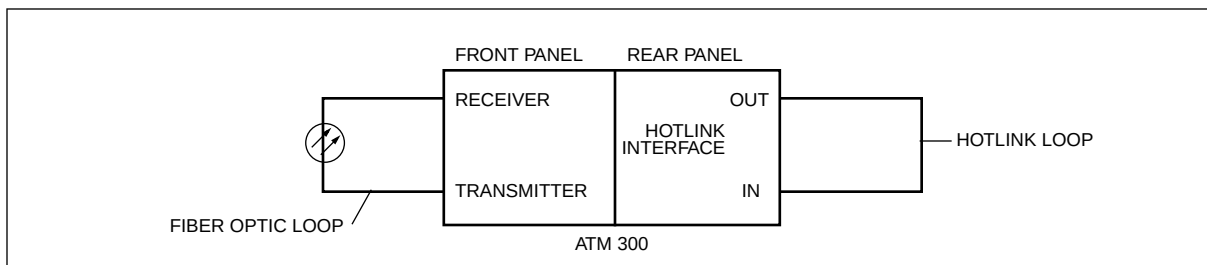

Figure 4. Self-Test
1. Loop the fiber optic and HOTLink cables as shown in Figure 4.